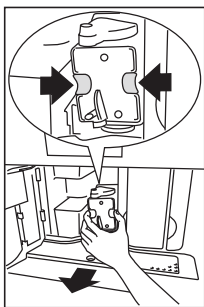

Fig. 39
- Press the two red release buttons inwards and at the same time pull the brewing unit outwards (Fig. 39).